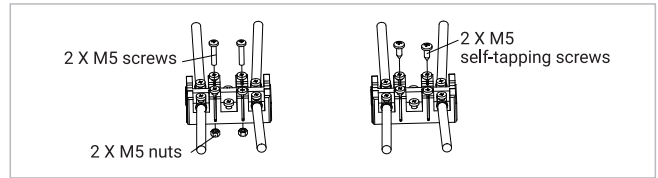

Figure 2-4
- Secure the terminal adapter: Use 2 M5 self-tapping screws, or 2 sets of M5 screws with M5 nuts, to secure the terminal adapter in the designated position, as shown in Figure 2-4.